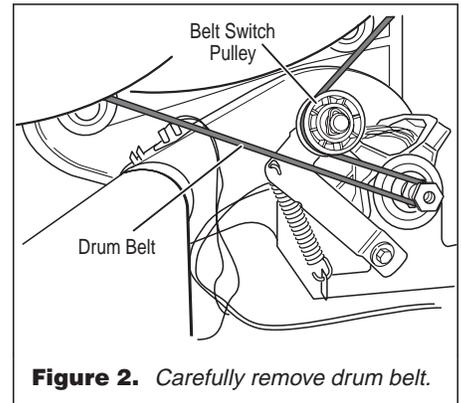

Figure 2. Carefully remove drum belt.
- ➔ Access and check the belt switch and motor. Carefully remove the drum belt from the spring-loaded belt switch pulley, gently letting the belt switch pulley down. See figure 2.